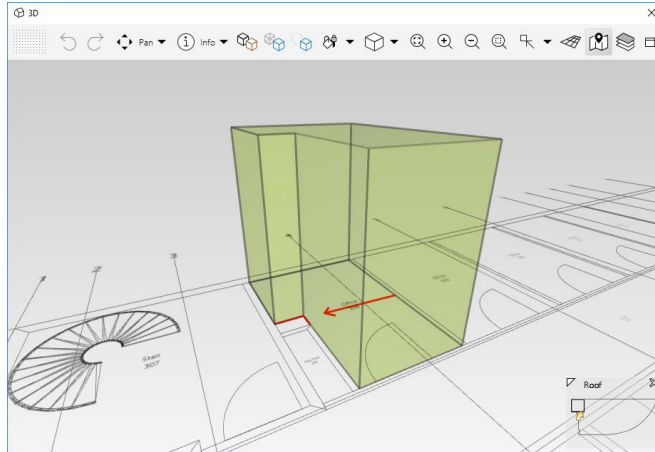

Figure 62: Part of the Space Boundary is not aligned with walls
- (4) In the **3D View** you can see a space object and a red line showing the part of the space boundary (see Figure 62), which is not near a wall (or another space).